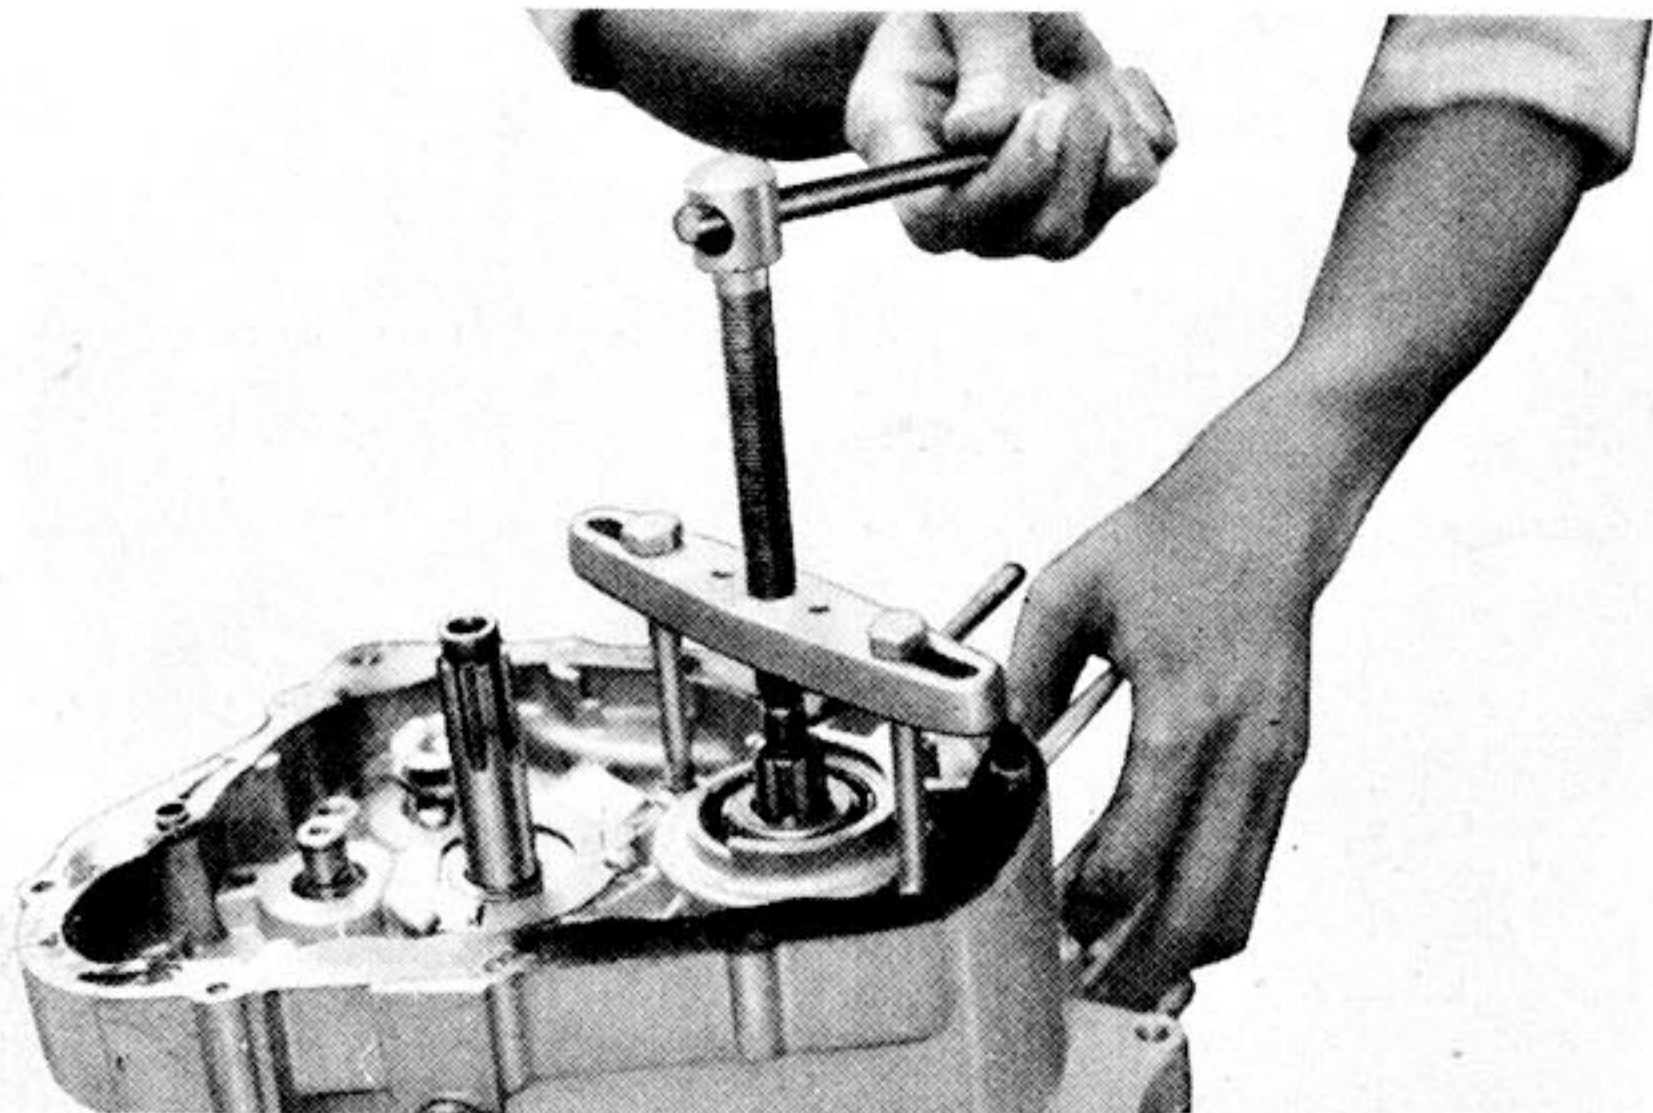

Fig. 4-15-2
b. Install the crankcase dividing tool on the right crankcase and alternately tap the transmission main axle and the side of the right half with a soft faced hammer, so that the right half eventually separates completely from the left half. (Figs. 4-15-2 and 3)